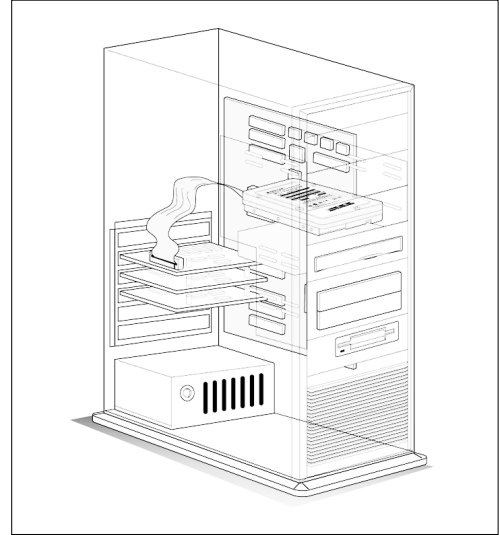

Figure 14. Attaching a 50- or 68-pin SCSI Cable to a SCSI Controller Card
- 5) Connect the remaining ribbon cable connector to the SCSI controller card or the motherboard by matching pin 1 on the ribbon cable with pin 1 on the SCSI connector. Refer to Figures 14 and 15.